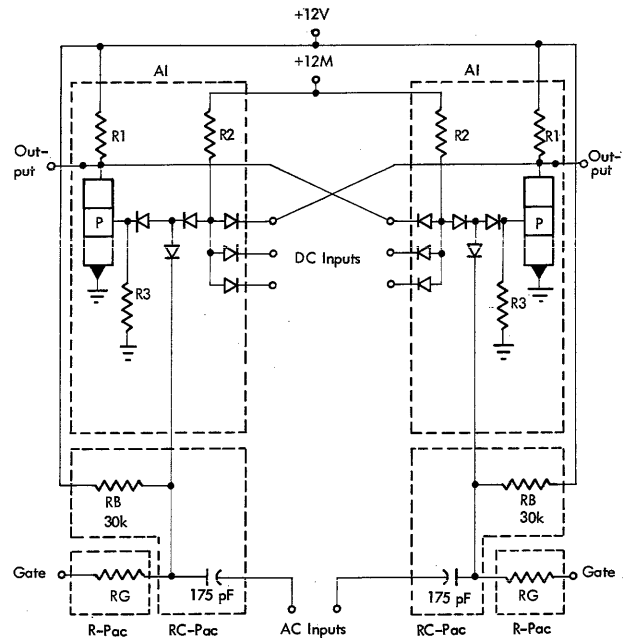

Figure 1-10. Flip-Flop (FF) Circuit
A flip-flop has two stable states: a set (1) state and a reset (0) state. The flip-flop block (Figure 1-10) is put in the set state by a pulse on the set input, which produces output polarities as indicated on the block; in this case, the 1 output is positive and the 0 output is negative. The 1 and 0 outputs are always of opposite polarity. A signal of the indicated polarity at the reset input causes the outputs to assume polarities opposite to those indicated.